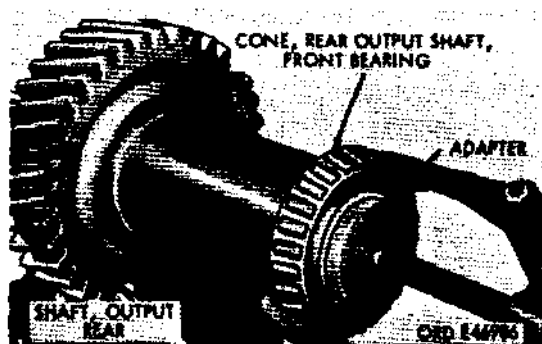

Figure 227. Removing rear output shaft front bearing cone
- (a) Remove front bearing cone. Place rear output shaft assembly in vise, and by using suitable puller together with special adapter 5120-795-0090, remove rear output shaft front bearing cone (fig. 227).